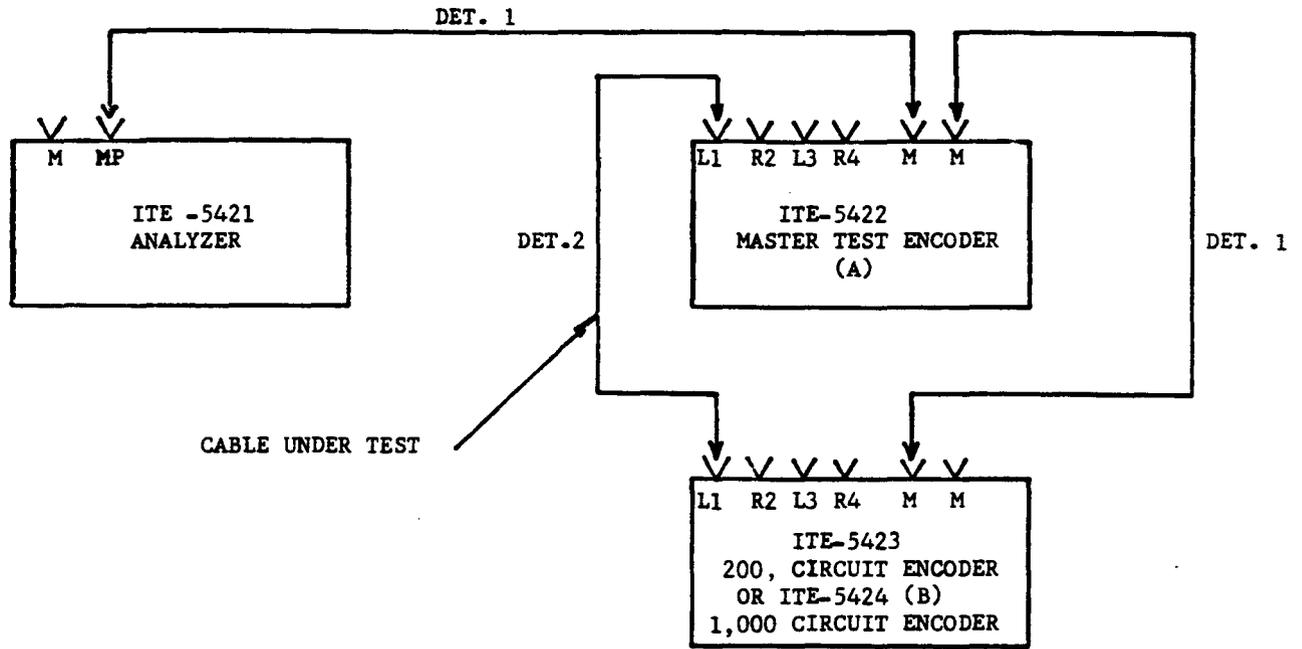

FIG. 10 INTERCONNECT SETUP FOR AUTOMATIC SCAN FUNCTION TEST
Step 1: Interconnect the ELVS in the following manner (refer to Figure 10):
- b) Momentarily operate the RESET button. Then operate the toggle switch to SCAN and observe that the readout will automatically advance or count to ^A 049. The green PASS lamp will light when the SCAN LIMIT (049) set by the thumb-wheel switches is reached.